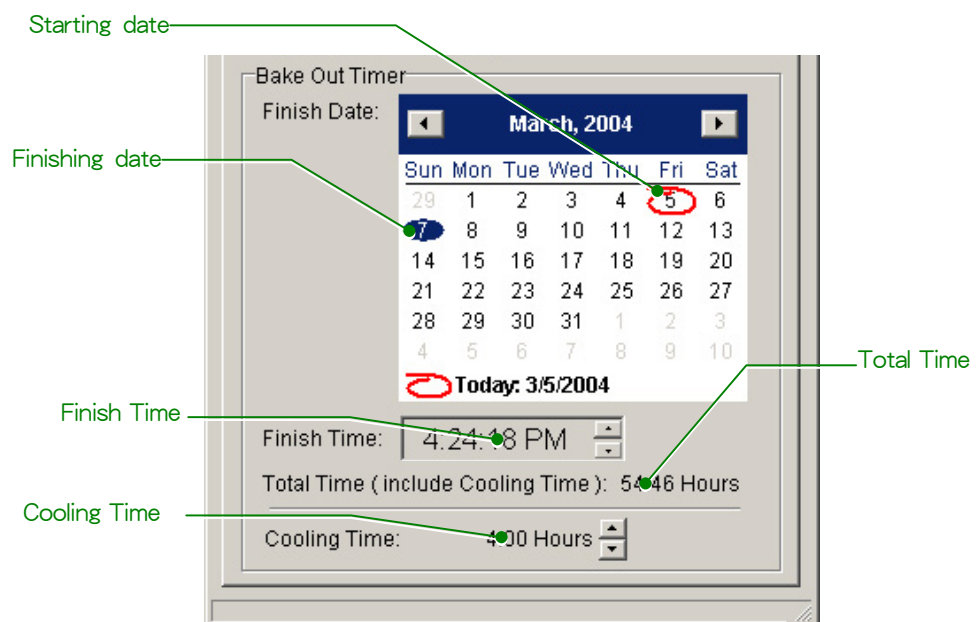

Fig. 6.21 Setting the bake-out and cooling time (Bake Out/ACD Heat window)
4. Set the desired bake-out time and cooling time in the Bake Out Timer box in the **Bake Out/ACD Heat** window (Fig. 6.21).